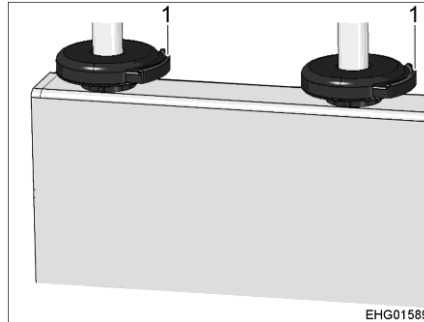

Fig. 25 Headrest release
- Press the release (Fig. 25,1) on the two guide rods of the headrest.